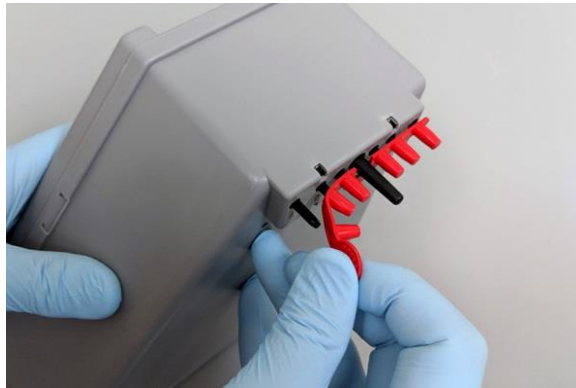
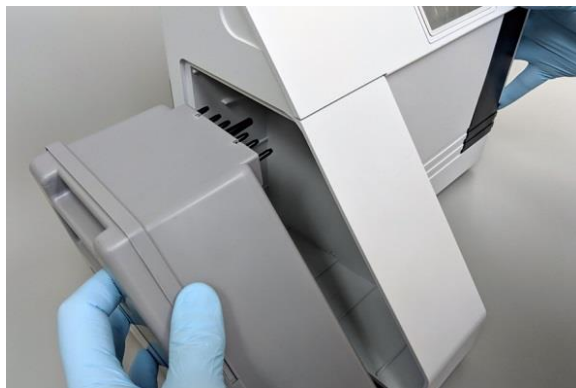

Figure 1-27 Red Protective Cover Removed
Figure 1-28 Fluid pack installation
- Remove the protective strip (Figure 1-27) and slide the Fluid Pack into position (Figure 1-28) on the left side of the analyzer. Save the red protective strip for disposal of the used fluid pack.